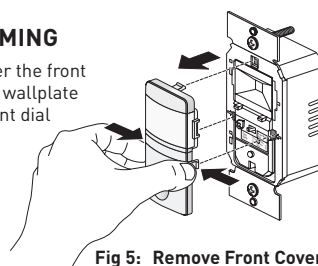

Fig 5: Remove Front Cover
- Firmly grasp the edges of the front cover directly below the lens where it says "open" (see Fig. 5). Push in one side first until it pops out, then the other side. Remove front cover from the unit.
- Firmly grasp the edges of the front cover directly below the lens where it says "open." Push in one side first until it pops out, then the other side. Remove front cover from the unit (see Fig. 5).